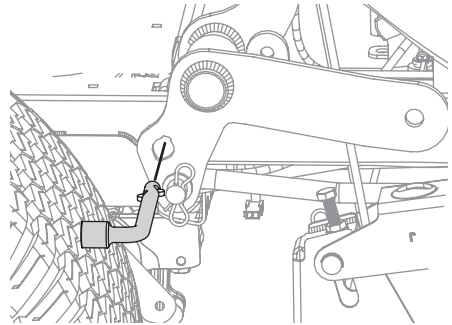

Figure 38
- a. Use the deck lift pedal and deck height index knob to lower the deck into the lowest position and use the multi-tool (a) to lock the deck lift components in place (Figure 38).